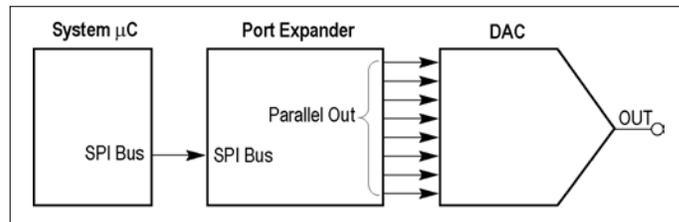

Figure 35. Mixed signal chain block diagram.
**Description:** These signals are the input to the DAC. These are also the 8-bit parallel output signals of the port expander in the middle of the mixed signal chain. The sine wave data from the SPI bus is converted to 8 parallel bits to drive the DAC. DAC\_IN0 is the LSB. (See Figure 35.)
**Description:** This is the output of the DAC at the end of the mixed signal chain. The DAC is driven from the port expander. The DAC output is a sine wave. Since the output is not filtered, the digitizing levels are present in the output waveform. (See Figure 35.)